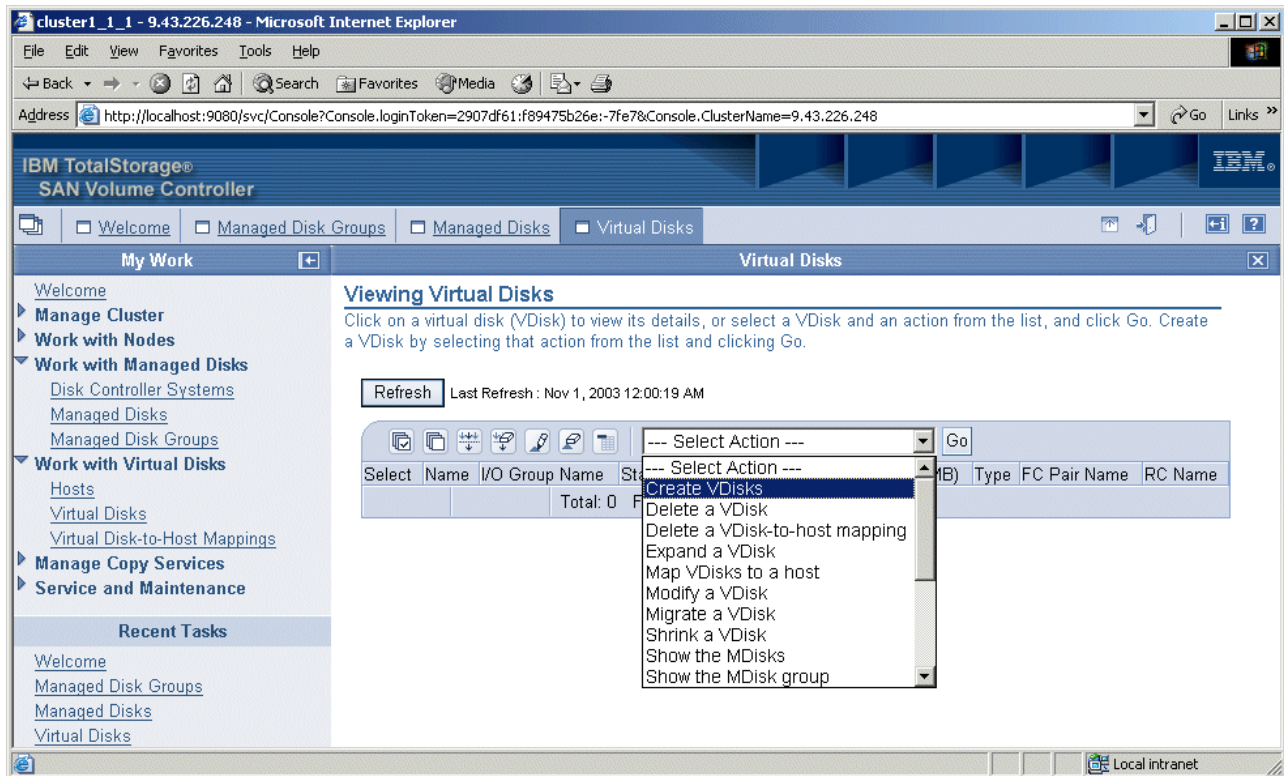

Figure 6-31 Viewing Virtual Disks panel
3. The Viewing Virtual Disks panel (Figure 6-31) opens. Select **Create vDisk** from the list. Click **Go**.